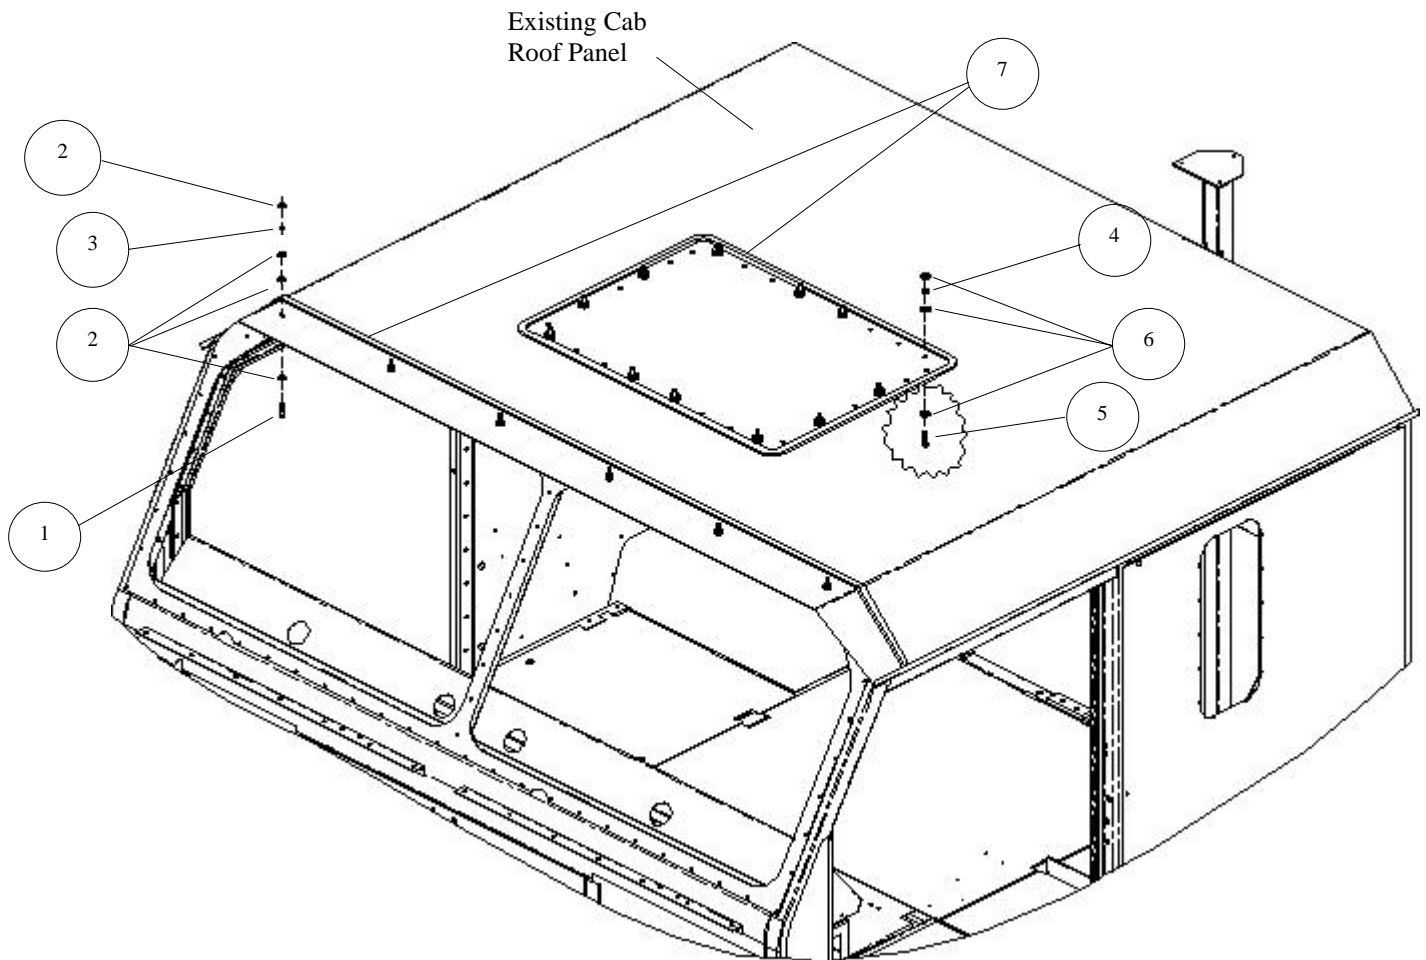

Figure 3-10. Roof Panel Mounting Studs and Spacers Installation.
2. Install roof panel mounting studs and spacers as follows (see Figure 3-10):
- a. Re-install cab sun visor. Replace back row of fasteners with 6 bolts (1), 12 flat washers (2), and 6 hex nuts (3) through the 6 slots of the existing cab roof panel as shown. Torque six hex nuts (3) to 9 lb-ft.
- b. Install one flat washer (2) on top of each of the six hex nuts (3).
- c. Install 12 bolts (5), 24 flat washers (6), and 12 jam nuts (4) to existing cab roof panel. Torque 12 jam nuts (4) to 35 lb-ft. Install one flat washer (6) onto each jam nut.
- d. Apply a strip of rubber seal (7) to the outside perimeter of the center bolt pattern (120 in.) and along the rear of the cab sun visor (100 in.).